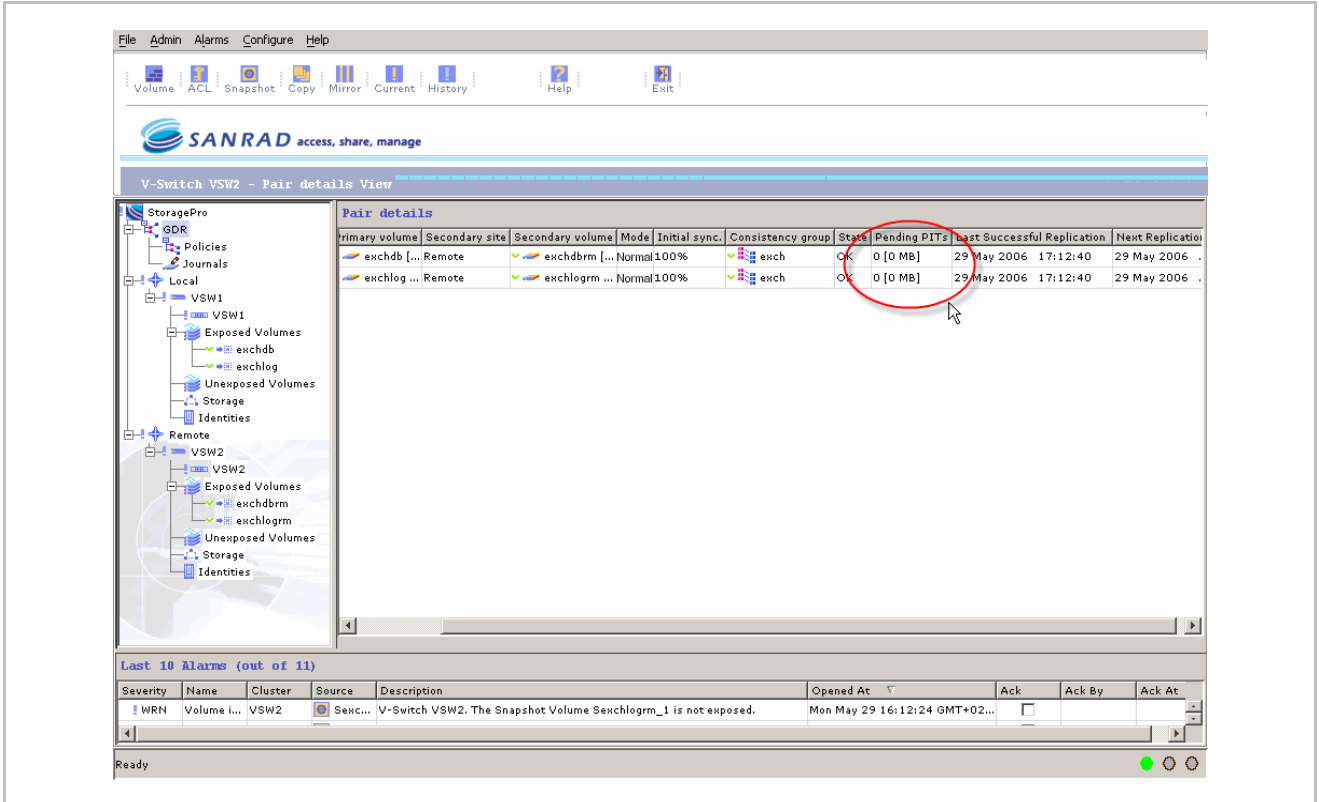

Figure 2. Pending Pits
2. Check the “Pending PIT” column (see Figure 2). Under normal circumstances you should see either: